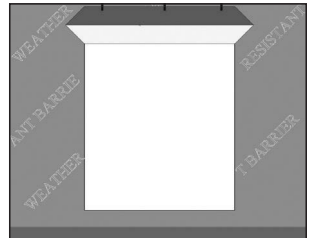

FIG. 6
- G) Temporarily tape this top flap up. (Fig. 6)